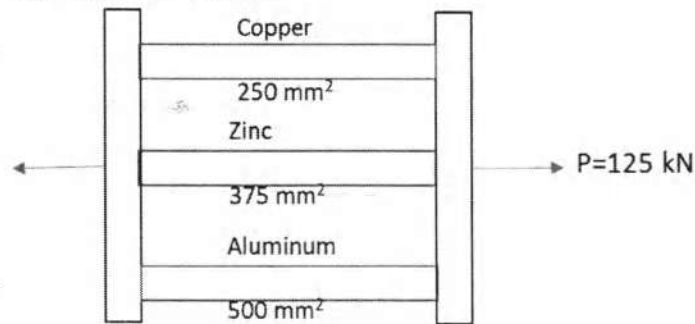

Figure 5
5. Three bars made of copper, zinc and aluminum are of equal length, are rigidly connected at their ends as shown in figure 5. They have cross section area of  $250 \text{ mm}^2$ ,  $275 \text{ mm}^2$  and  $500 \text{ mm}^2$  respectively. If the compound member is subjected to longitudinal pull of 125 kN. Estimate the proportion of load carried on each rod and induced stress. [7]